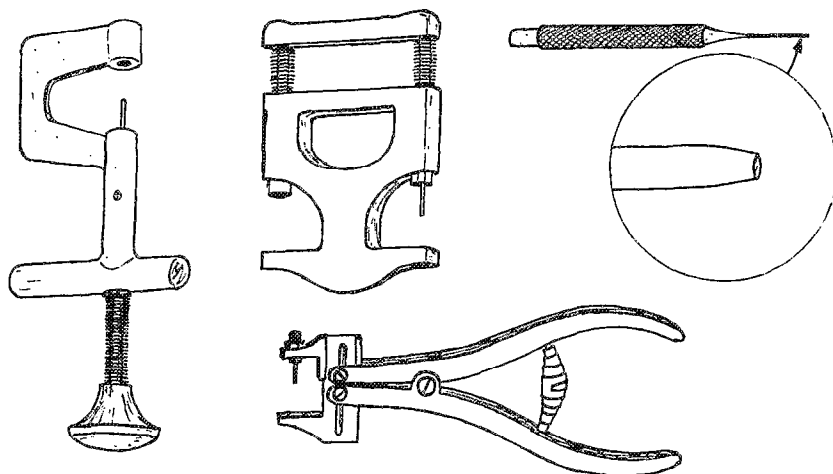

Figure 6 ✎
Figure 6 illustrates some of the tools available for removing centerpins. There are others, including one that mounts on a workbench for production shop use. They all work fairly well, but I prefer the tool in the upper center because it also pushes the new pin into the center; the important things are that (1) the tool must have a parallel action, and (2) the tip should be ground to a slight taper as shown in the inset of the pin punch at the upper right.